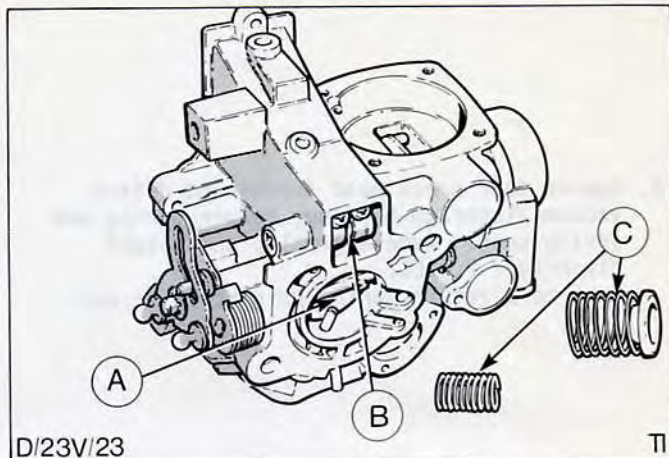

Fig.54. Items to be checked on carburettor main body.
12. Check carburettor main body and remaining components for wear or damage, Fig.54. The main points for checking are air valve and its associated linkage, throttle plate, spindle and throttle linkage, and two diaphragm return springs.